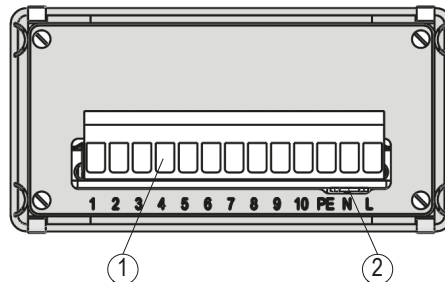
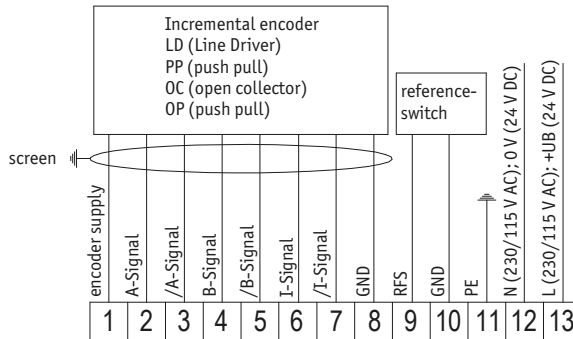

Fig. 2: Connection
Fig. 3: Incremental connection diagram
The connections of the encoder signals differ depending on the device/encoder versions and are shown in Fig. 2 and Fig. 3.
- 13 pin coupler strip (see Fig. 2).